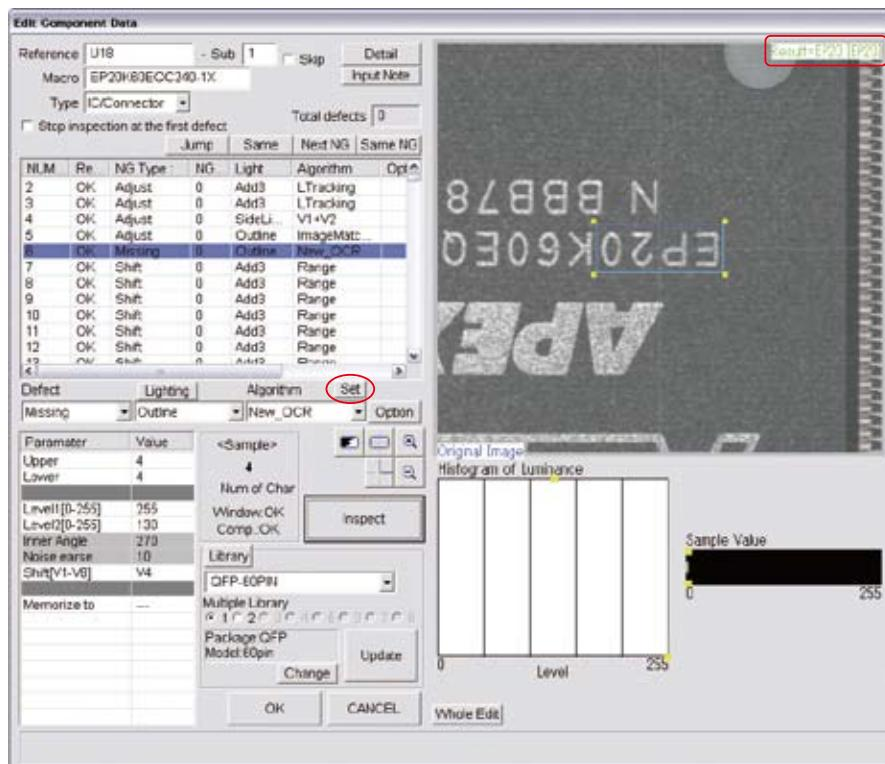

Figure 1-61 New_OCR
Step9: Press **Inspect** and check if the recognized character is display correctly in the upper right side of the window of Figure 1-61.